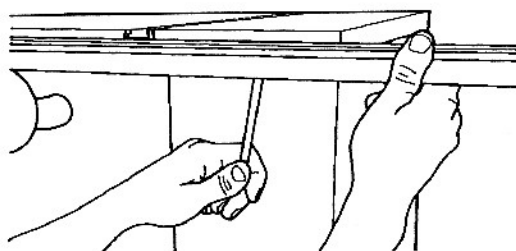

Fig. A-39
46. Look to see that the top of the rail is about $1/32$ " below the bottom of both miter slots in the table. (Find something you can use as a "gauge" which is $1/32$ " thick—like a cabinet scraper or piece of cardboard.) Use a $7/16$ " wrench to tighten the nut at the right end of the table, as shown in Fig. A-39. Re-check for the $1/32$ " spacing.